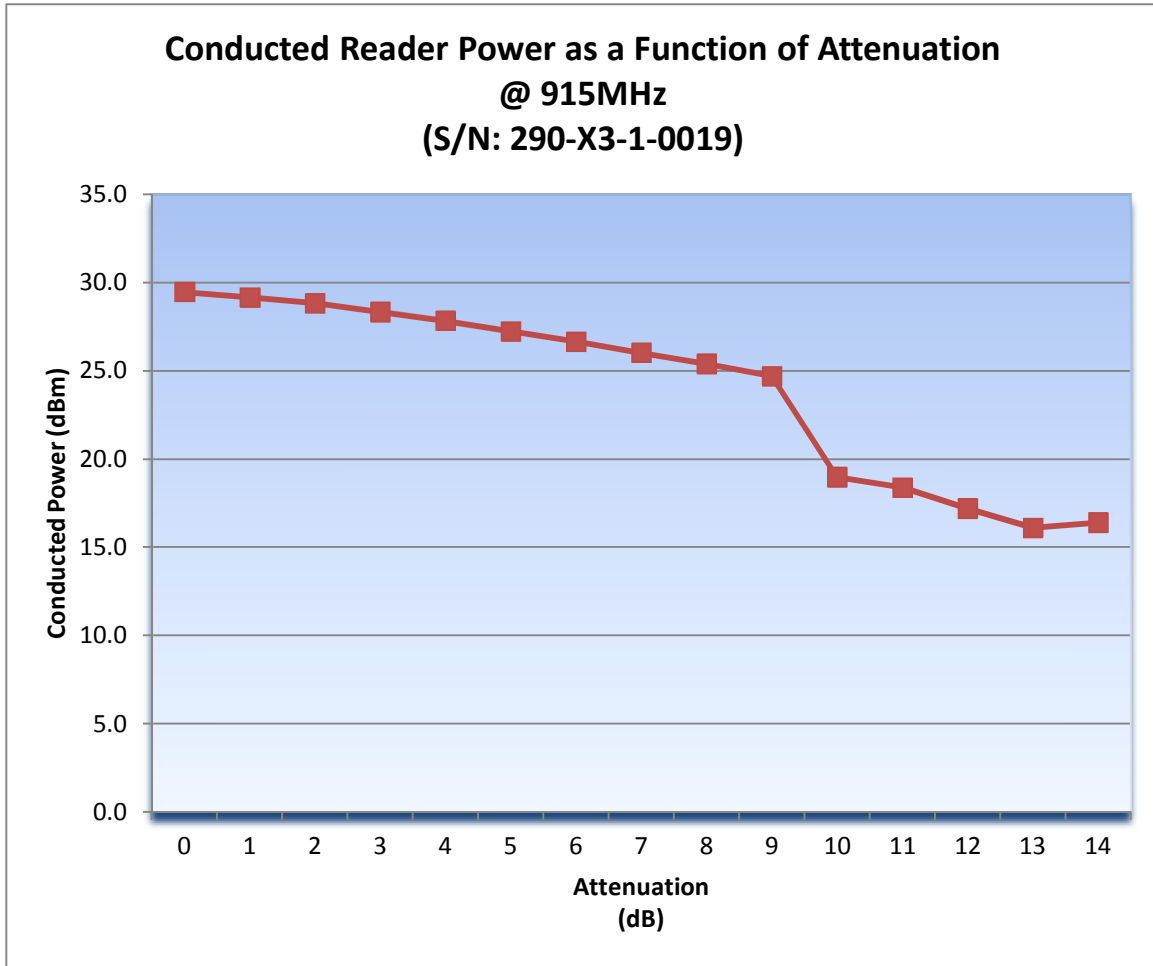

Figure 1 Relationship Between Nominal Output Power and ‘Attenuation Setting’
**Description** This command applies additional attenuation to the transmit output power. At startup, 10dB of attenuation is applied to the AS3992 output. The transmitted output power is not a linear function – it has the general output from shown in Figure 1 below. The AS3992 *output* may be attenuated from 0dB to 14dB. If maximum output power is desired, the attenuation must be set to 0.